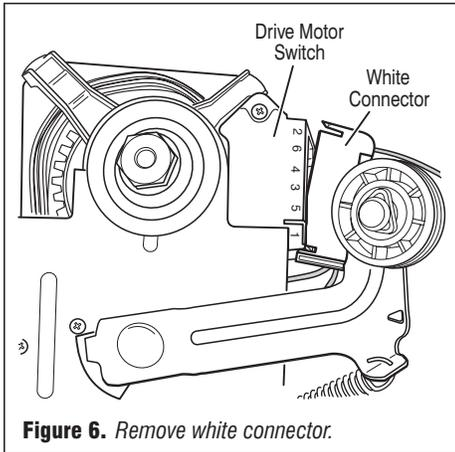

Figure 6. Remove white connector.
- Remove the white connector from the drive motor switch. See figure 6.